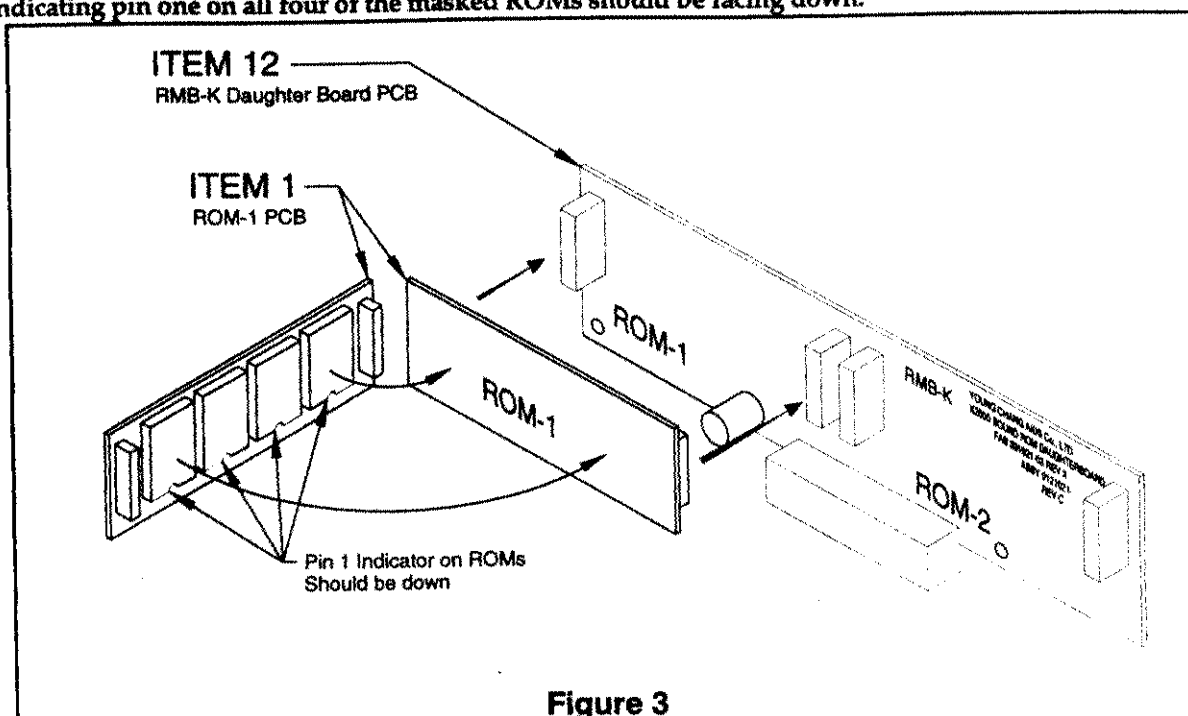

Figure 3
8. See Figure 3. Determine which ROM board is in the kit. The masked ROMs are labeled 1-1, 1-2, 1-3, 1-4 on the ROM-1 board and 2-1, 2-2, 2-3, 2-4 on the ROM-2 board. Note that the RMB-K Sound ROM Daughter board is marked ROM-1 on one end of the board and ROM-2 on the other end. Install Item 1, the ROM-x PCB, onto the appropriate side of the RMB-K Sound ROM Daughter board by pushing the two connectors on both sides of the ROM board simultaneously into the matching two connectors on the RMB-K Daughter board. **The notches indicating pin one on all four of the masked ROMs should be facing down.**
NOTE: The connectors on both the RMB-K Daughter Board and the ROM board are keyed so that they can only be installed into their proper connectors. However, it is possible to install them upside down which may destroy the ROMs. *Be sure to install the ROM board with the notches indicating pin on the ROMs facing down as shown in Figure 3*
11. See Figure 3. Determine which ROM board is in the kit. The masked ROMs are labeled 1-1, 1-2, 1-3, 1-4 on the ROM-1 board and 2-1, 2-2, 2-3, 2-4 on the ROM-2 board. Note that the RMB-K Sound ROM Daughter board is marked ROM-1 on one end of the board and ROM-2 on the other end. Install Item 1, the ROM-x PCB, from the kit onto the appropriate side of the RMB-K Sound ROM Daughter board by pushing the two connectors on both sides of the ROM board simultaneously into the matching two connectors on the RMB-K Daughter board. The notch indicating pin one on all four of the masked ROMs should be facing down.
NOTE: The connectors on both the RMB-K Daughter Board and the ROM board are keyed so that they can only be installed into their proper connectors. However, it is possible to install them upside down which may destroy the ROMs. *Be sure to install the ROM board with the notches indicating pin one on the ROMs facing down as shown in Figure 3*